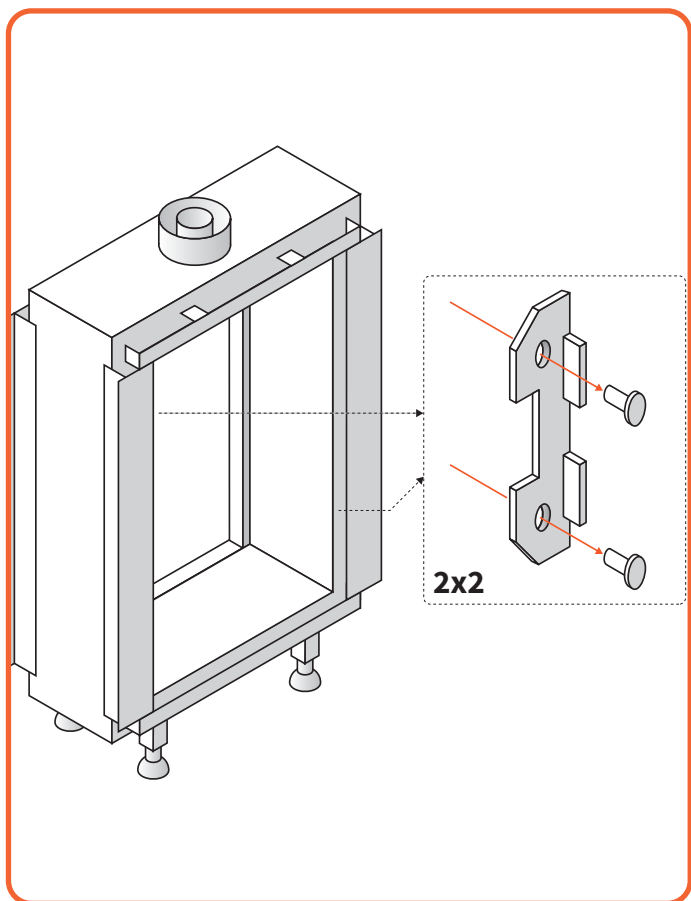

Figure 9.6 | Remove glass brackets
- Remove the glass brackets on the side, see Figure 9.6.